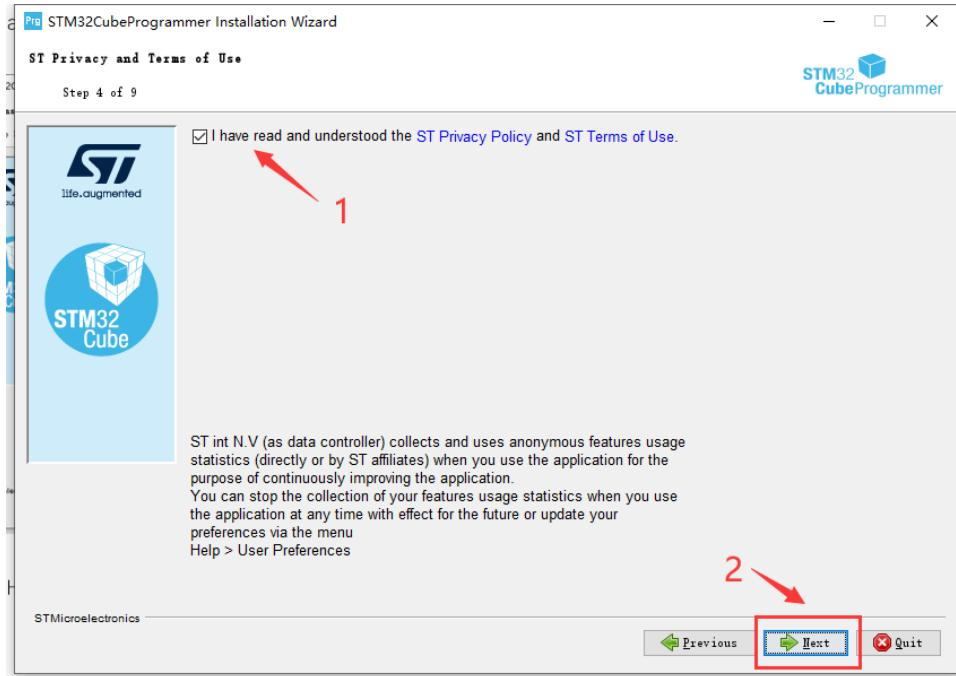

Figure 8-4
- 5) Check the box I Have... , as shown in Figure 8-4, then click Next: